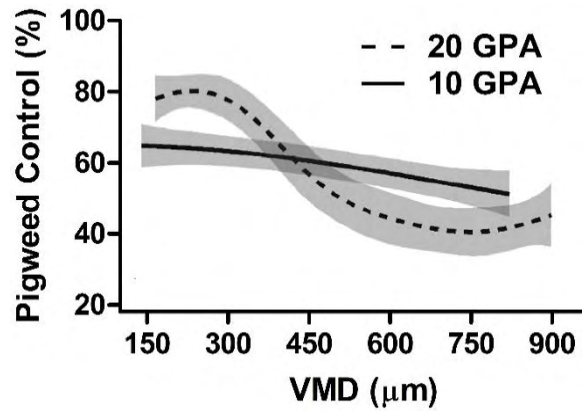

Figure 4. Pigweed control modeled across various nozzle droplet size spectrums and carrier volumes with a sublethal rate of paraquat.
Unfortunately, this is easier said than done. By switching to a nozzle that produces larger droplets, paraquat coverage and efficacy could be reduced. If the incorrect DRA is utilized with certain nozzle types, more driftable fines could be produced. Nozzles that produce a Medium (M) to Coarse (C) droplet size (236 to 403 µm VMD) at 20 GPA will achieve the greatest efficacy on pigweed (Figure 4). Control will